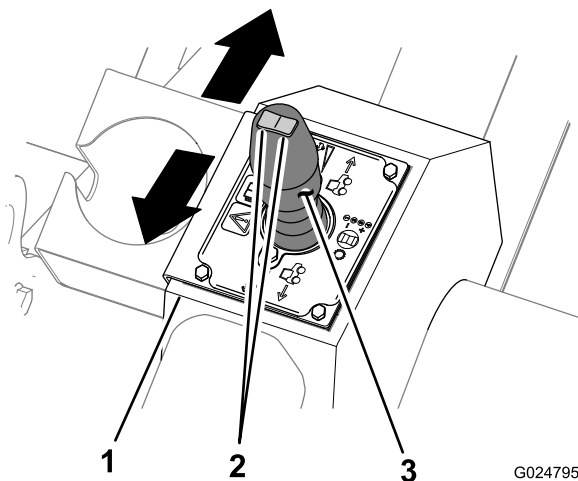

Figure 14
When trenching, plowing, or boring, use the utility-traction joystick to change the direction and speed of the machine (Figure 14). The further you move the joystick in either direction, the faster the machine will move in the selected direction.
- Move the utility-traction joystick forward to move the machine forward (Figure 14).
- Move the traction joystick rearward to move the machine in reverse (Figure 14).
- Move the traction joystick to the center (Neutral) position to stop the machine (Figure 14).
The gear-selector switch is located on top of the utility-traction joystick (Figure 14), and is used to select the transmission gear.